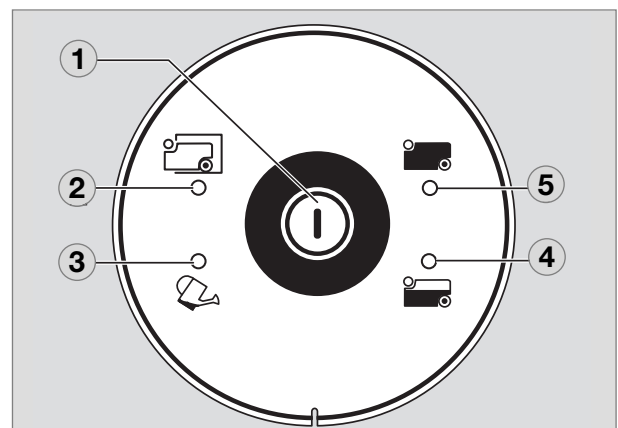

Fig. 10
The cassette tank has a capacity of 19 l. When LED (4), Fig. 10, lights up, the tank is approx. 80 % full. This means that it can be used only a couple of times.